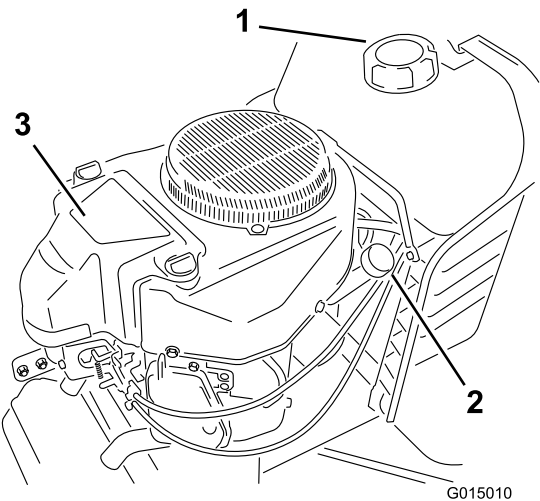

Figure 17
- 5. Clean around the oil dipstick (Figure 17) so that dirt cannot fall into the fill hole and damage the engine.
10. Slowly pour approximately 80% of the specified amount of oil into the fill hole (Figure 17). Check the oil level; refer to Checking the Oil Level.
6. Slowly pour about 80% of the specified amount of oil into the fill hole (Figure 17). Check the oil level; refer to steps 6 and 7 of Checking the Oil Level.